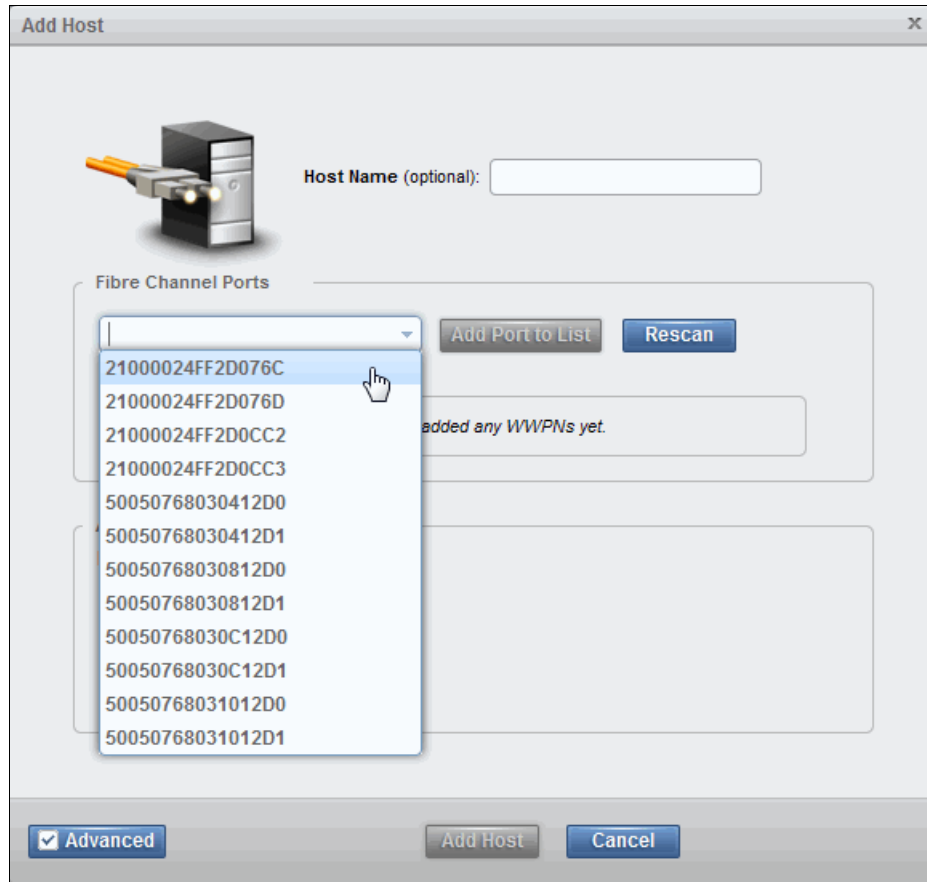

Figure 4-35 FC WWPNs visible to the system
2. Enter a descriptive **Host Name** and click the **Fibre Channel Ports** drop-down menu to view a list of all FC WWPNs visible to the system, as shown in Figure 4-35.